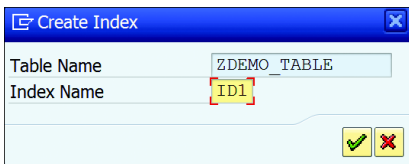

Figure 10.15 Maintain Index Name
3. In the CREATE INDEX dialog box that appears, input the index name and click CONTINUE (see Figure 10.15).